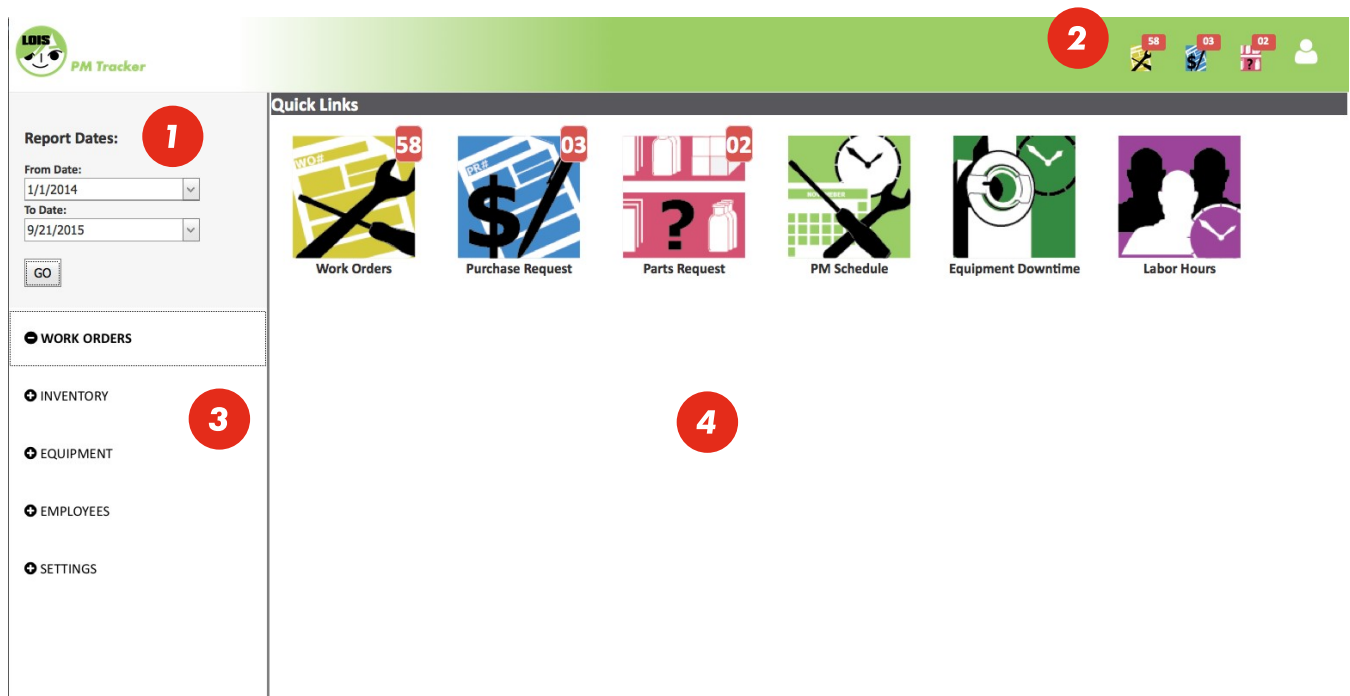

Figure 54. PM Tracker Web Reports: Quick Links
Once logged in to PM Tracker web reports, you first arrive at the *Quick Links* page (see Figure 54). The interface consists of four main areas:
1. Reporting Dates: These dates apply to all reports unless the report has separate date selection options. Changing the dates and clicking **GO** applies the dates to your reports. Note: For illustration purposes the date frame was added to Figure 54
Quick Links serves as the PM Tracker Reports welcome page (see Figure 54). The page contains six icons that lead to the most frequently used reports in PM Tracker. The six icons link to: